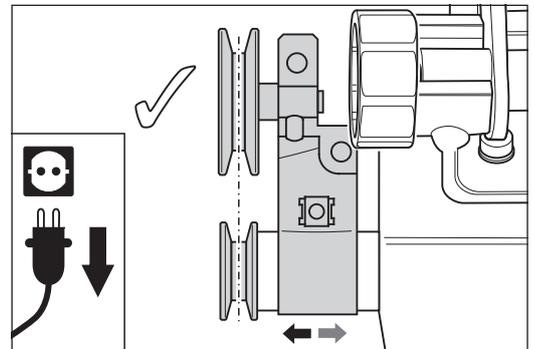
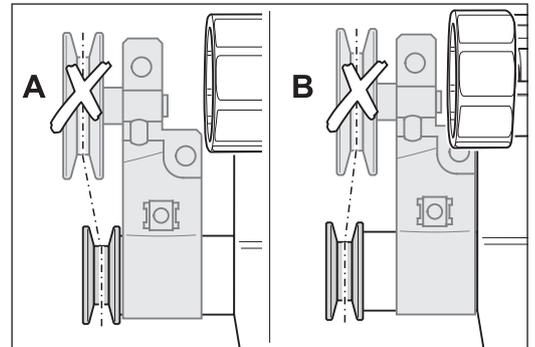

Fig. 64 Orient the belt tensioner to the fan pulley.
Fig. 65 Avoid position **A** and **B** of the belt tensioner!
**Orient the belt tensioner to the fan pulley! Move the belt tensioner accordingly (Fig. 64)! A wrong orientation from belt tensioner to fan pulley (Fig. 65) increase the wearing of fan axle, pulleys and V-belt extensive! Then these parts must be replaced significant more often!**